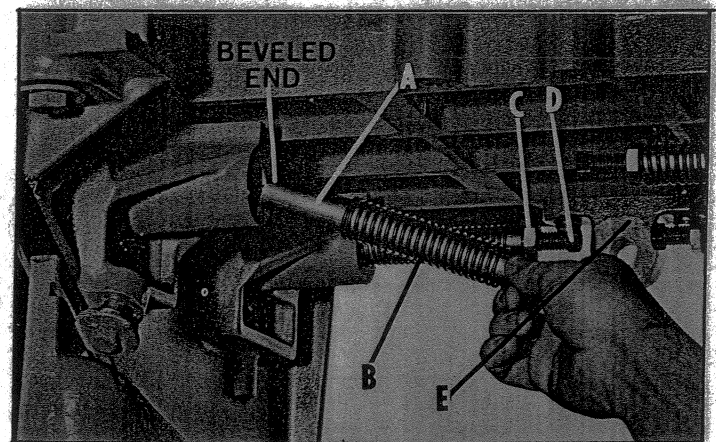

Fig. 2
2. Insert the four rods (A) Fig. 2, beveled end up, into the holes on underside of bed. Slip springs (B) on rods, install locknuts (C) on the 2" long square head screws (D) and thread screws (D) about half way into the end of the rods, as shown in Fig. 2.
3. Attach rear bracket (E) to underside of bed, as shown in Fig. 2, with two 1-1/4" long hexagon head cap screws and lockwashers. **DO NOT TIGHTEN SCREWS AT THIS TIME.**